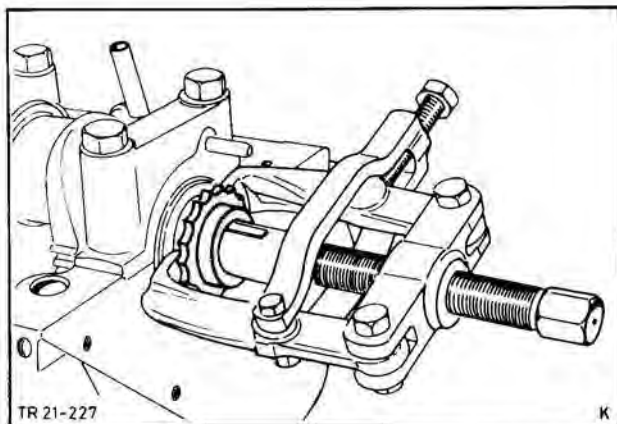

Fig. 42. Pull off crankshaft sprocket using standard puller
26. Pull off crankshaft gear using standard puller, Fig. 42.